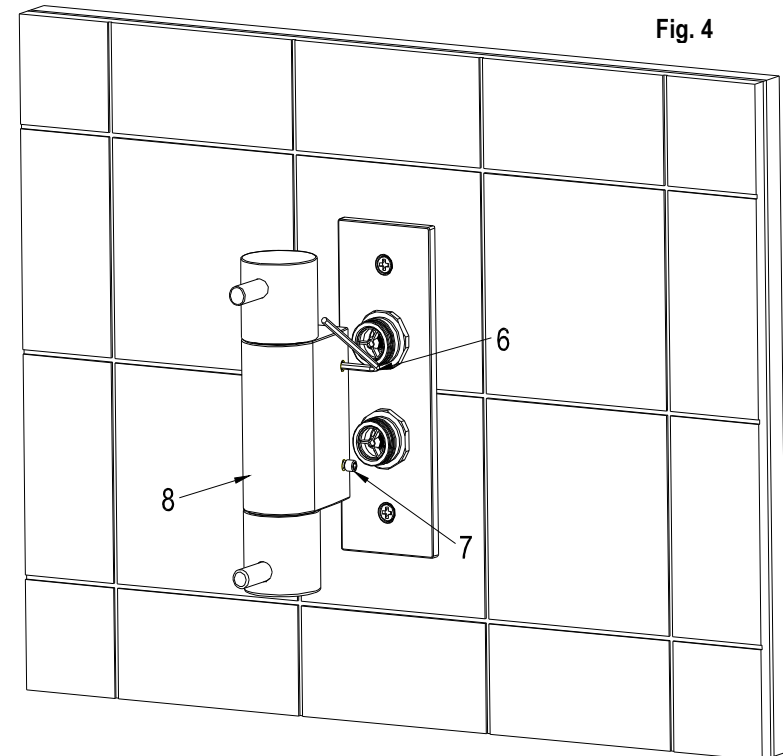

Fig. 4
4.10 Push shower body (8) onto backplate (outlet pointing downwards) and secure using grub screws (7) and hexagon key (6) as shown in Fig. 4.
4.17 Push shower body (8) onto backplate (outlet pointing downwards) and secure using grub screws (7) and hexagon key (6) as shown in Fig. 4.